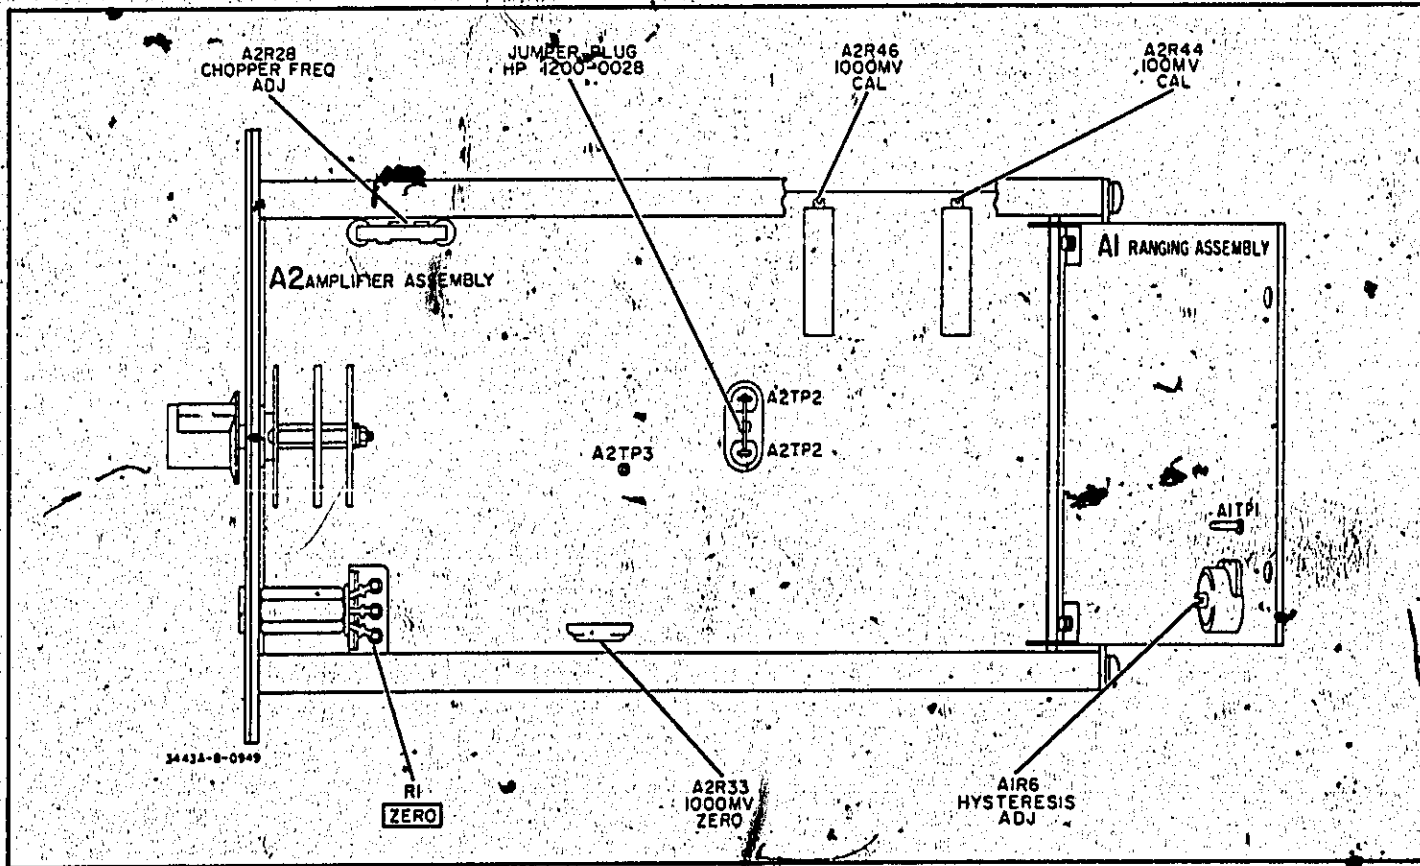

Figure 5-3. Location of Internal Adjustments
- c. Connect the DC Voltmeter common lead to the chassis ground and Volts probe to test point A2TP3 (see Figure 5-3).
- e. Adjust A2R28 (See Figure 5-3.) for an Electronic Counter reading of 160 cps \pm 1 cps.
- d. Adjust A2R33 (see Figure 5-3) for a digital voltmeter reading of 000.0 mv.
- d. Adjust A2R46 (see Figure 5-3) for a reading of +800.0 mv. Reverse the input voltage polarity. The digital voltmeter reading should be between -799.1 mv and -800.9 mv. If necessary, adjust A2R46 to split errors between positive and negative voltages.
- e. Adjust A2R44 (see Figure 5-3) for a reading of -80.00 mv. Reverse the input voltage polarity. The Digital Voltmeter reading should be between -79.91 mv and -80.09 mv. If necessary, adjust A2R44 to split error between positive and negative voltages.
- a. Connect an Electronic Counter between Test Point A1TP1 (see Figure 5-3) and 3443A chassis ground.
- d. Adjust A1R6 (see Figure 5-3) for an electronic counter indication of 2.12 milliseconds.
- Remove shorting plug connecting A2TP1 to A2TP2 (see Figure 5-3); the 3440A reading should be 000.0 mv.